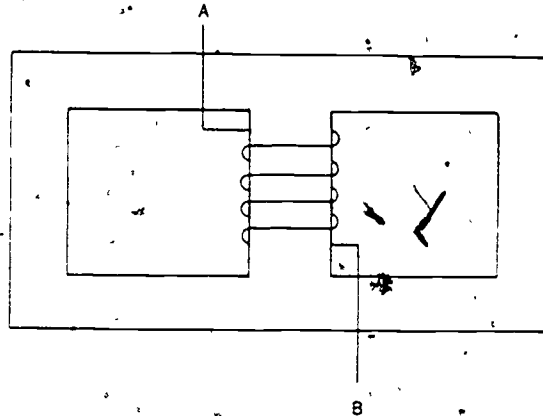

Figure 7. Determining Direction of Flux in Iron Core
9. Show by means of arrows the flux in the iron core when current in the coil flows from A to B in the drawing in figure 7.